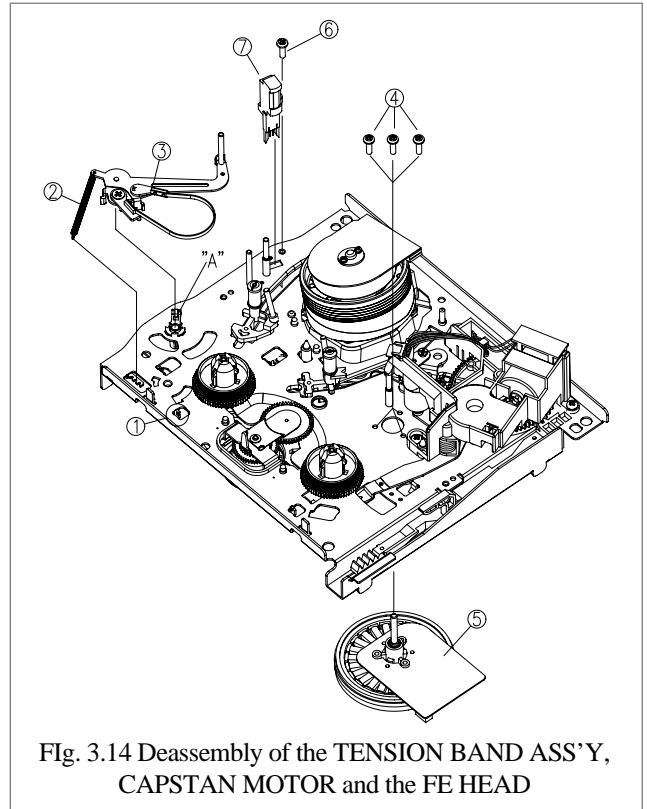
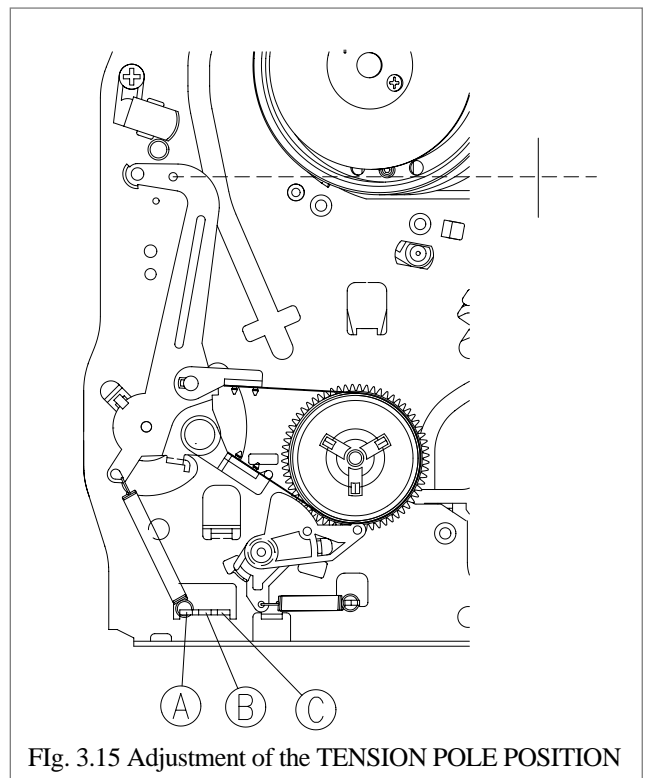

Fig. 3.14 Deassembly of the TENSION BAND ASS'Y, CAPSTAN MOTOR and the FE HEAD
Fig. 3.15 Adjustment of the TENSION POLE POSITION
9. Deassembly of the TENSION BAND ASS'Y (Fig. 3.14)
- Unhook the TENSION SPRING ② from the MAIN-BASE HOOK ①.
- Unhook the MAINBASE HOOK "A" and remove the TENSION BAND Ass'y ③ from the mainbase.
- After the assembly of TENSION BAND Ass'y on the mainbase, adjust the TENSION POLE location as shown in Fig. 3.15.
- Take care not to deform the MAINBASE HOOK "A" when separating the TENSION BAND Ass'y ③.
10. Deassembly of the Capstan Motor (Fig. 3.14)
- Separate the CAPSTAN MOTOR ⑤ after the removal of 3 screw ④ holding the capstan motor.
11. Deassembly of the FE HEAD (Fig. 3.14)
- Unscrew the screw ⑥ and separate the FE HEAD ⑦ from the MAINBASE.